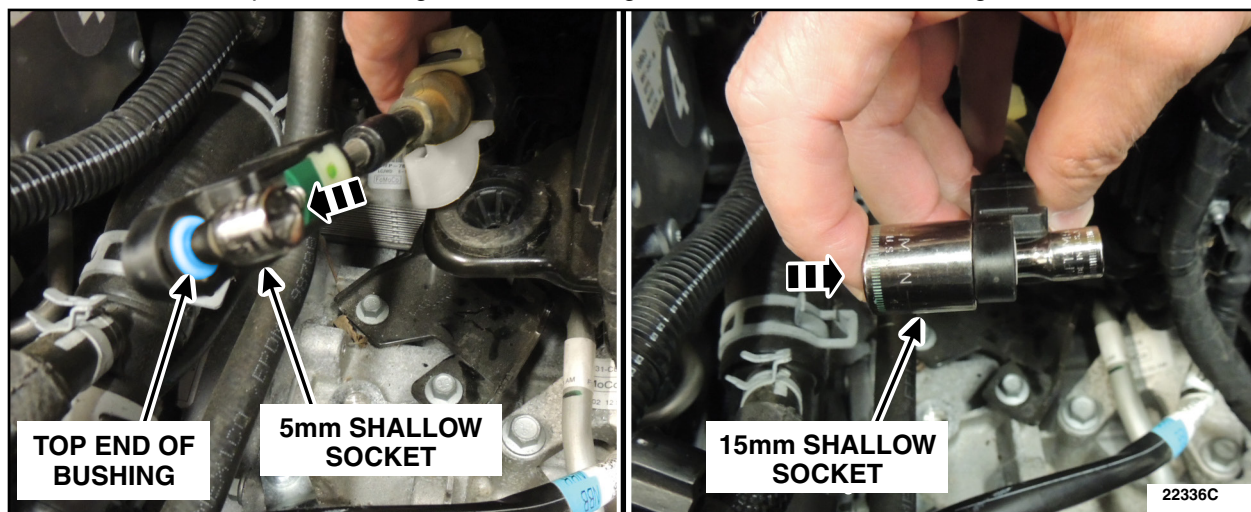

FIGURE 3
- Using a 5mm and a 15mm socket with Straight Jaw Adjustable pliers the bushing can be pressed out of the shifter cable end. The 5mm socket will fit into the small part of the bushing on top, the 15mm will go against the bottom of the shifter cable end, make sure to have socket centered with the bushing to allow clearance of the bushing shoulder as it is being pressed out. See Figures 3 and 4.